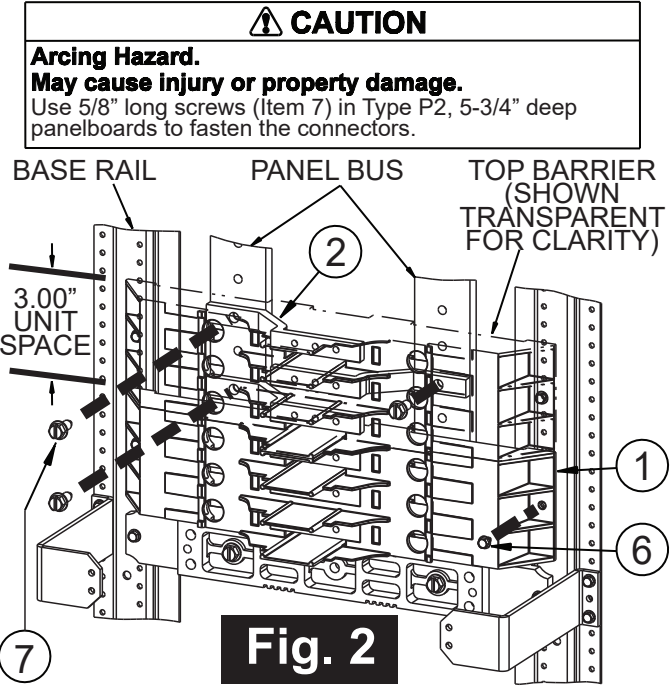

Fig. 2
6. Refer to Fig. 2
Position the Top Barrier (Item 1) so that it fills the 3" unit space for the kit and fasten it to the Base Rails using two #8-32 screws (Item 6). Install the three Outer Connectors (Item 2) within the mounting barrier, alternating between the left and right Panel Bus. The left-right-left connector pattern shown in Fig. 2 may be reversed if necessary to continue a connector pattern already in place in the panel. Fasten the connectors to the panel bus with three 1/4"-20 x 5/8" screws (Item 7).